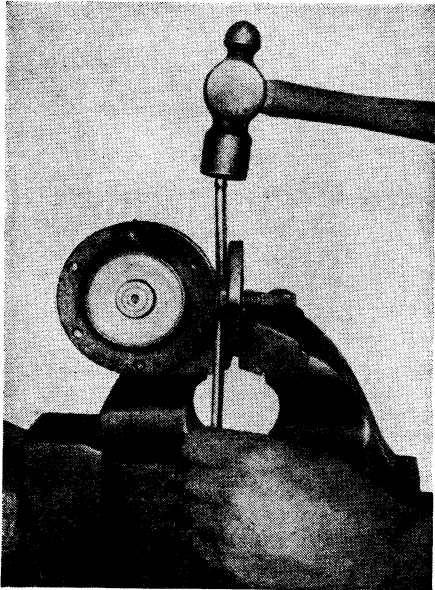

Fig. 25 Series R. Driving assembly pin out of body with permanent rocker arm pin
6. Maintain a slight pressure on assembly pin, Fig. 25, and drive it out of body with permanent rocker arm pin.